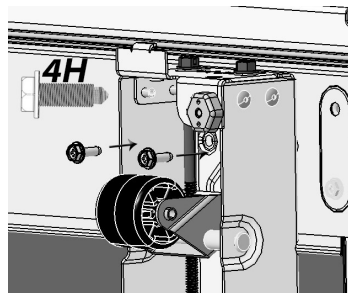
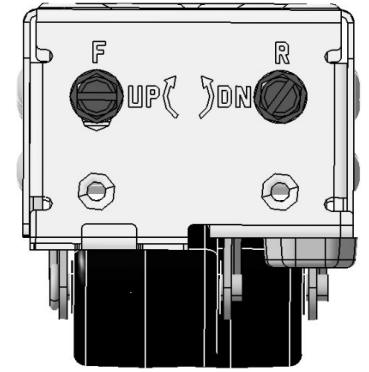

Fig. 5
Fig. 6
- c. Using the 4H bolts from step 1, fasten the front of the Leveler Assembly to the refrigerator/freezer using a $\frac{5}{16}$ " nut driver (Fig. 5). If more fastening space is required, rotate the bolt labeled **F** clockwise (Fig. 6) using a flathead screwdriver or a $\frac{3}{8}$ " socket wrench.